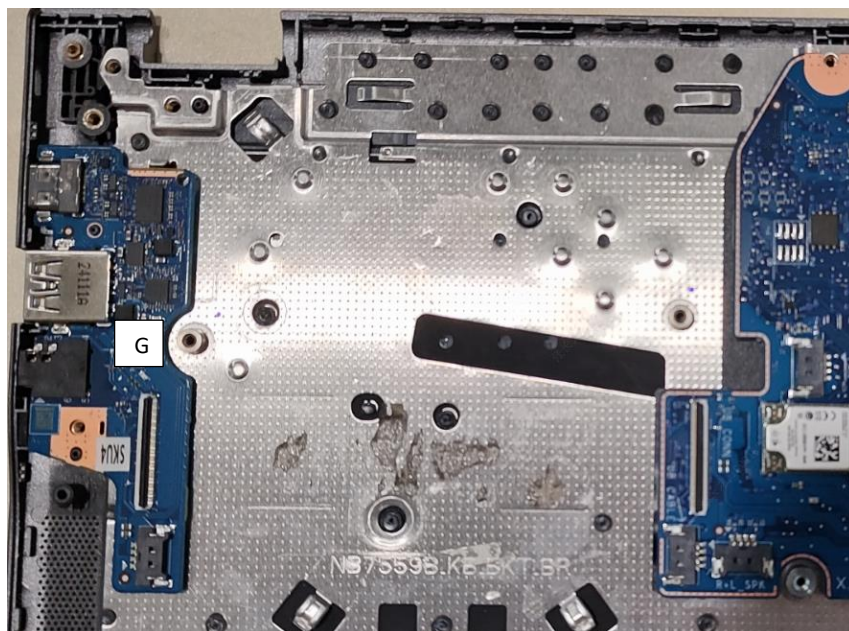

Figure 3-25. USB Board Removal
3. Release the USB board (G) from the I/O port slots and guide pins (H) on the top assembly (Figure 3-25). Then remove the USB board.